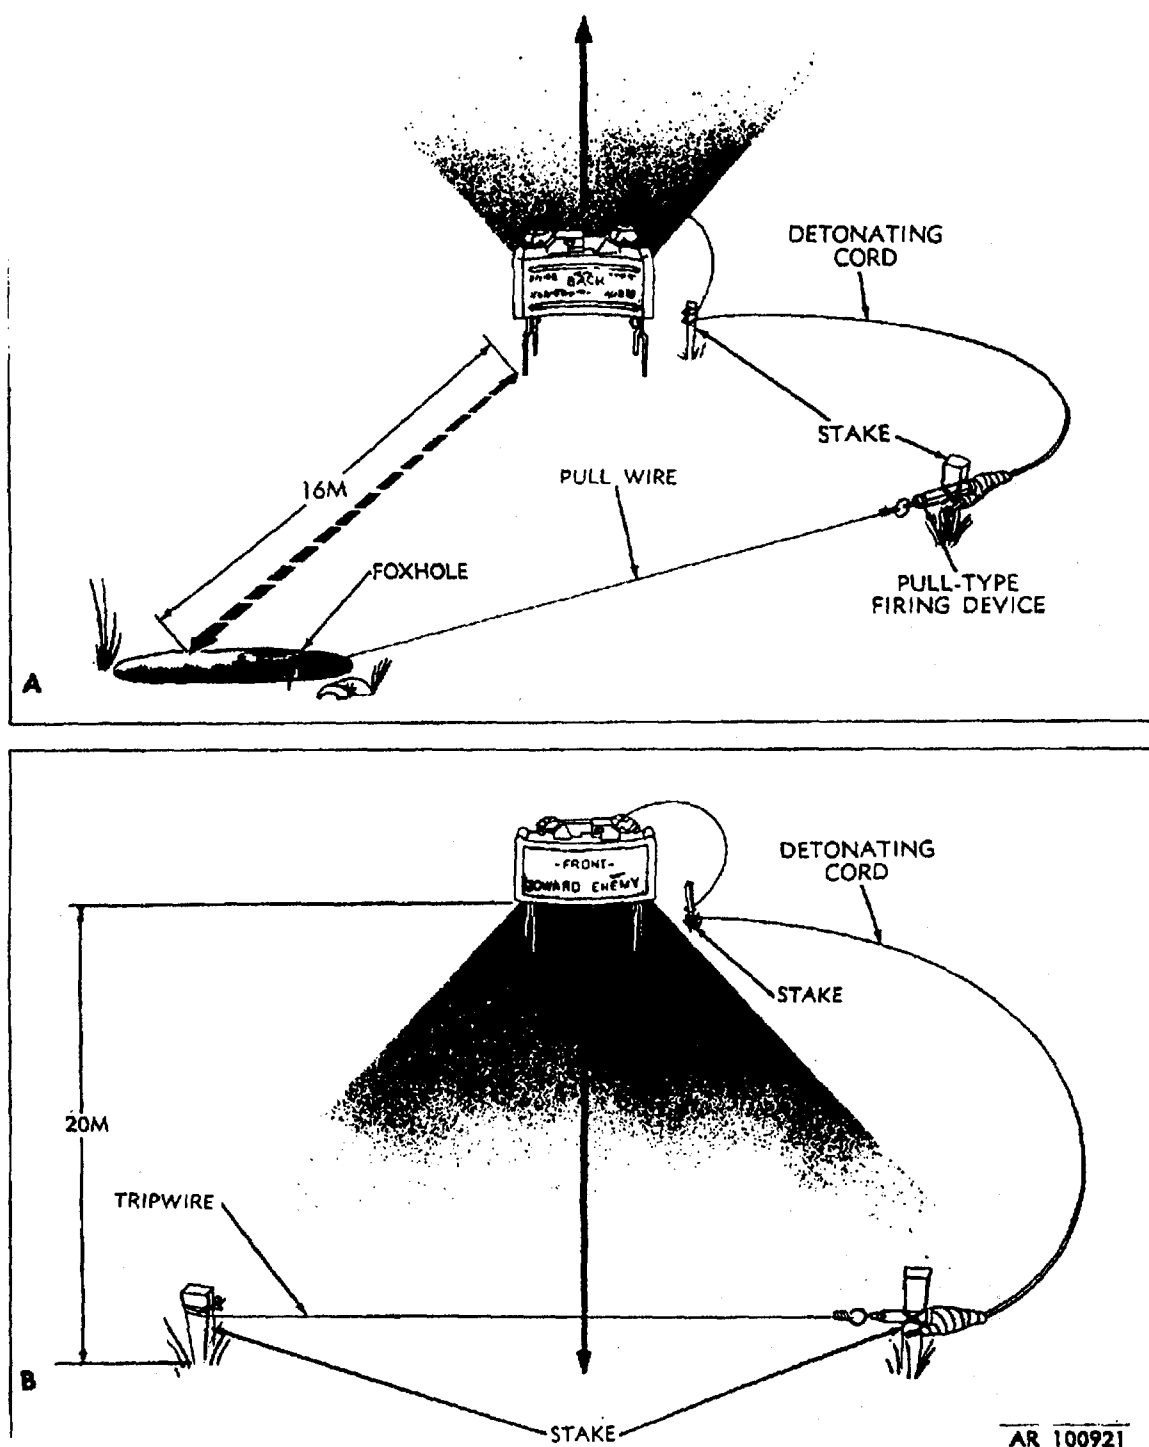

Figure 2-12. Mine M18A1 set up for nonelectric detonation.
- (4) For mines manufactured prior to 1972:
- (5) Mines manufactured after 1972 have a rubber insulated spool wire extending into the blasting cap of the M4 assembly and no connector. These mines require a different arming procedure as follows:
- (6) Unwind remaining firing wire to firing position. If possible, bury firing wire to protect it from artillery fire and to prevent easy detection. Camouflage the mine. Examples of setup are shown in figure 2-12.
(1) For pull-wire initiation:
- (c) Fasten one end of detonating cord to blasting cap that is attached to firing device ((b) above) by means of tape (fig. 2-12, view A).
- (d) Fasten firing device securely to a firmly emplaced stake (fig 2-12, view A) by means of tape, wire, twine, or anchor cord.
- (i) Attach pull-wire securely to pull ring of firing device. Pull-wire should be of sufficient length to allow actuation of firing device from a protected position at least 16 meters rearward (minimum safe distance protected position) from emplaced mine (fig. 2-12, view A).
(2) For tripwire initiation:
- (b) Use same procedures used in (1)(a) through (h) above for preliminary steps to arm mine.
- (c) Stretch tripwire across a trail or other avenue of approach, and securely attach firing device to two firmly emplaced stakes at a distance of approximately 20 meters forward of mine (fig. 2-12, view B).
- 5 Emplace mine and detonating cord as instructed in e(1)(a) to (h) above, and as shown in figure 2-12.
- 6 Attach a pull-type firing device (refer to FM 5-250) to free end of each piece of detonating cord, and attach a pull-wire or tripwire as instructed in e(1) or (2) above.